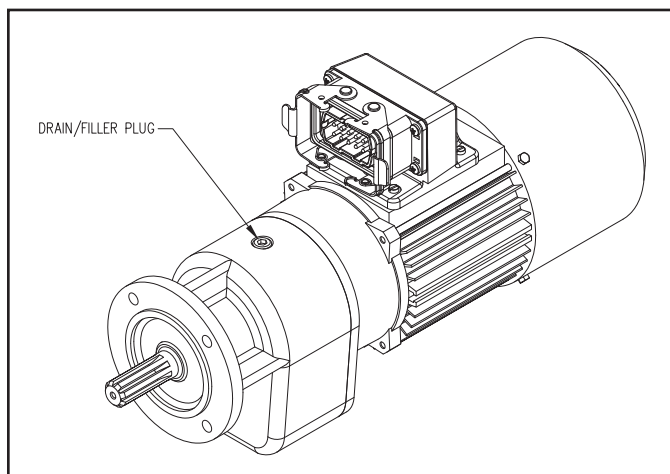

Figure 5. Gearcase Drain/Filler Plug
4. Remove drain/filler plug on top of gearcase as shown in figure 5. Tip motor to drain oil in to proper container. Properly dispose of used oil.